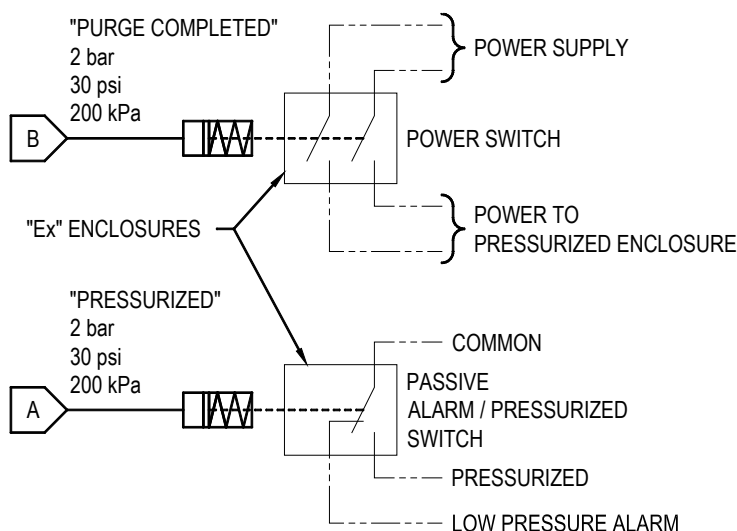

Figure 3 PO Circuit Diagram
1. Connect the power interlock and alarm/pressurization signals to the corresponding 1/8" NPTF connector on the side of the Control Unit. Refer to Figure 3 below.